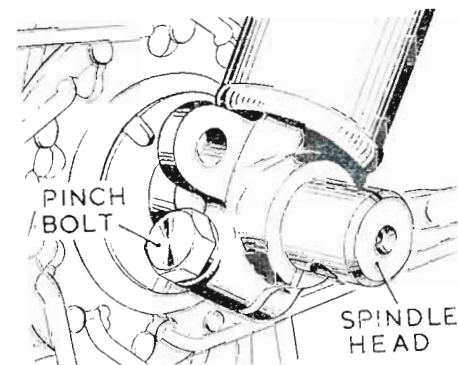
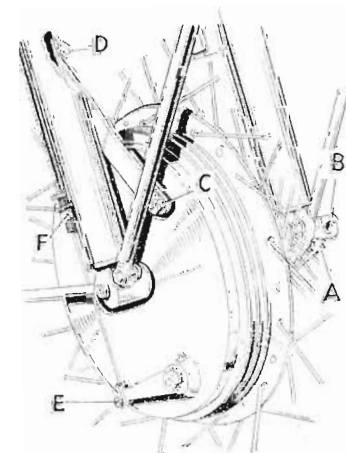

Fig. 18. Removing the front wheel (*Enduro*)
Fig. 19. The front wheel assembly (*Enduro*).
brake plate (Fig. 19). First slacken the ring locknut on the adjuster sleeve, make the required adjustment and retighten the ring nut against the face of the abutment. Additional finger adjustment is provided at the handlebar lever (Fig. 1).
To remove the front wheel first disconnect the brake cable by withdrawing it from the slotted clevis (E) Fig. 19, and then unscrewing it from the abutment (F). Remove the torque arm nut (C), slacken nuts (D), and release the pinch bolt (A). Insert a stout tommybar through the hole (B) at the head of the wheel spindle and unscrew it from the hub. Note that it has a left-hand thread and unscrews by turning in a clockwise direction (Fig. 18). Support the wheel as the spindle is withdrawn, and when it is clear, the